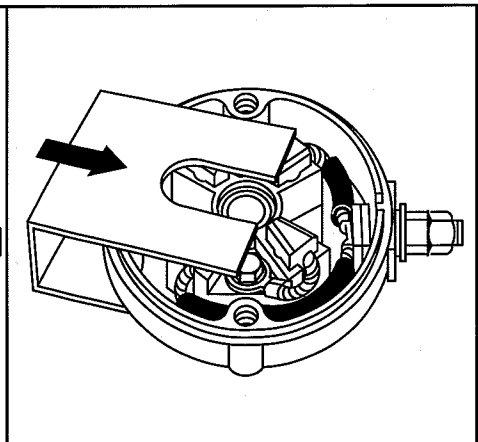

Fig. 29 – Compress Springs
2. Compress brushes and springs and assemble brush retainer to end cap, Fig. 29.